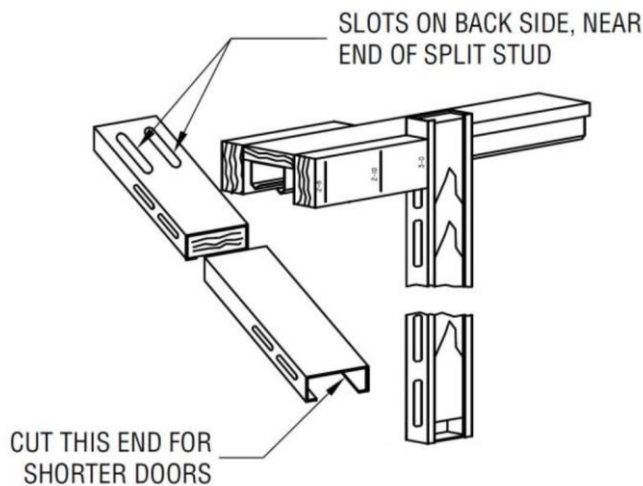

Figure 7
- Note: The bottom of the split stud is the end without the slots as seen in Figure 7. If the split studs must be cut for shorter doors, determine which end of the split stud has the slots and cut off the other end.
- Butt one pair of the split studs against the header nailing boards with the slots side against the header as seen in Figure 7